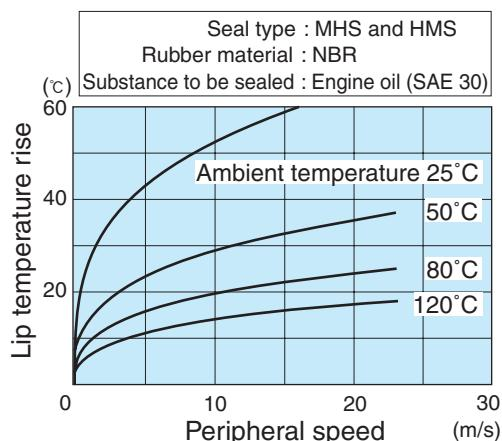

Fig. 1.6.4 Estimated lip temperature rise curves
- ② Determine the supposed ambient temperature
- ③ Find the point at which the ambient temperature curve meets the calculated shaft surface speed in Fig. 1.6.4
- ④ Read the ordinate value of the point
- ⑤ Obtain the estimated lip temperature by the sum of the ordinate value and ambient temperature
In Fig. 1.6.4, the cross of the curve for ambient temperature 80 °C and peripheral speed 10.5 m/s indicates that the lip temperature rise will be 20 °C.